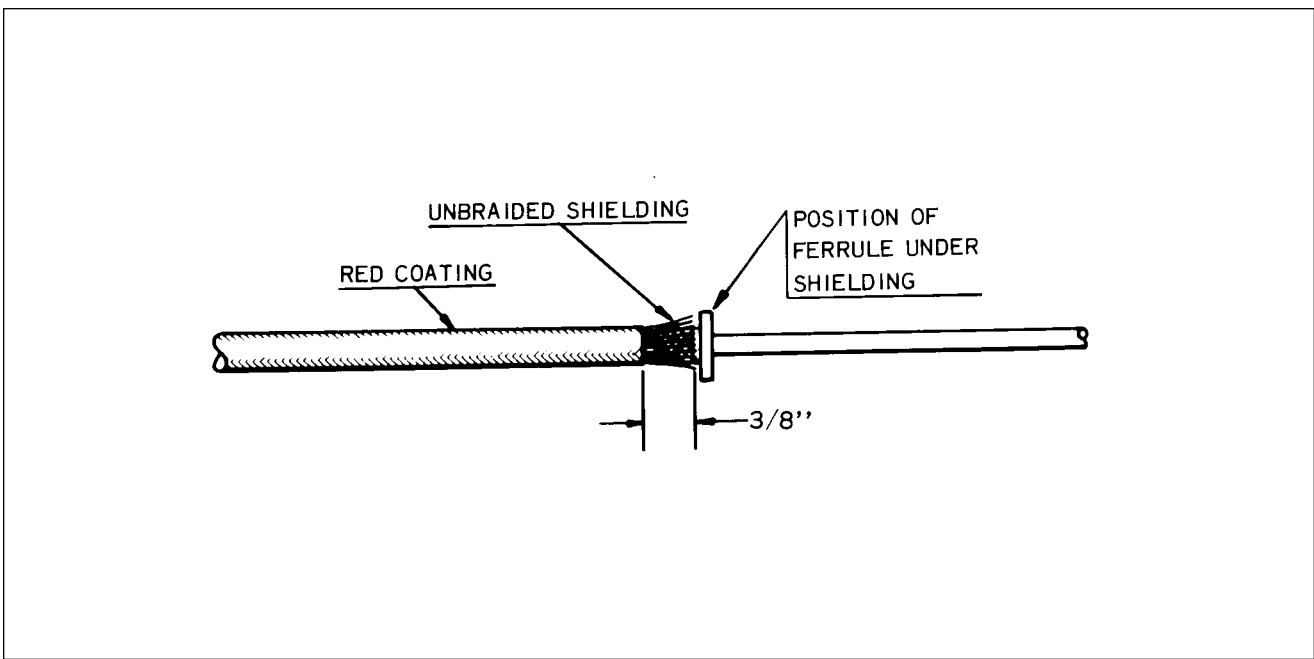
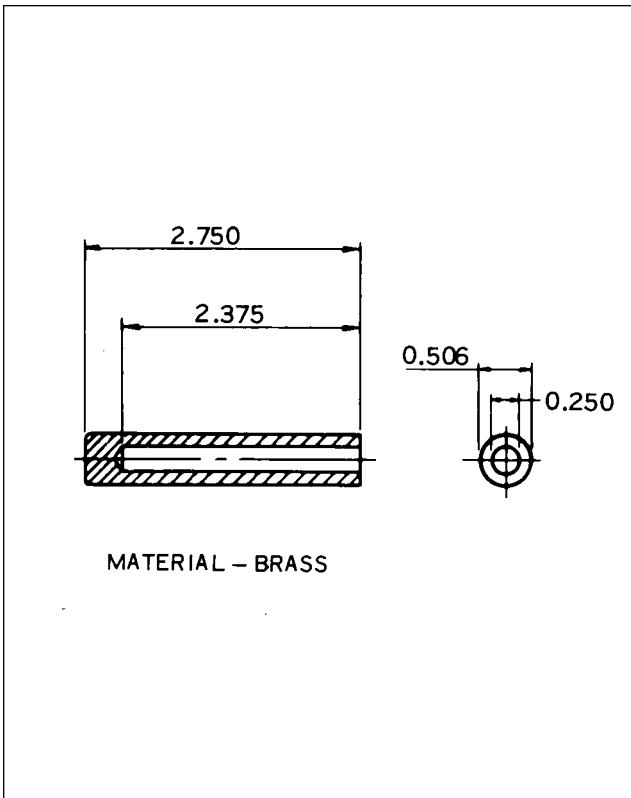

Figure 74-37. Forming Shielding Around Ferrule
Figure 74-38. Ferrule Seating Tool
- K. Pass the taped end of new lead through hole in outlet plate. Remove electrical tape from lead and install tapered end of ferrule under the unbraided strands of shielding. Form strands of shielding evenly as shown in Figure 74-37 and pull lead assembly back through cable outlet plate until ferrule binds in the outlet well. Position the Scintilla 11-7074 Ferrule Seating Tool (Figure 74-38) over the wire and firmly seat the ferrule by tapping the seating tool with a hammer or by using an arbor press.